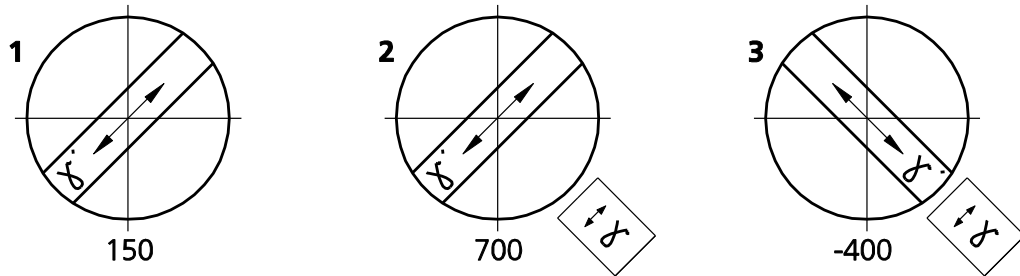
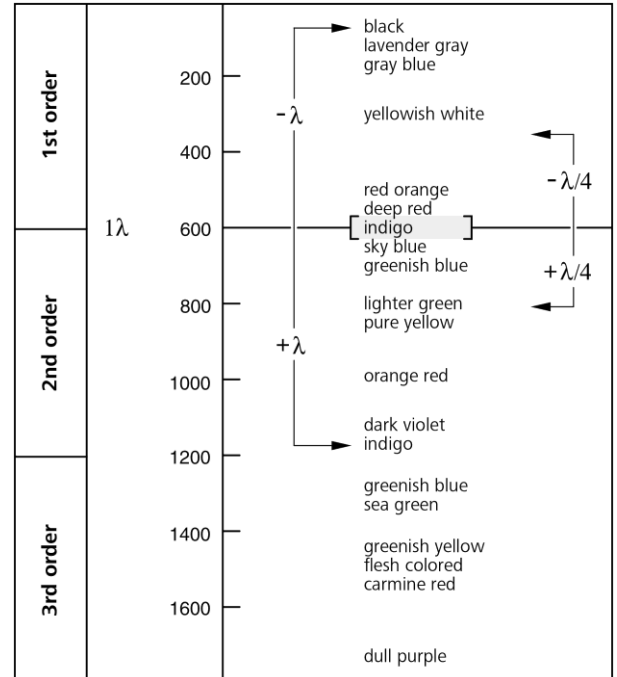

Fig. 4-14 Determining the polarization direction n_{γ} using a synthetic fiber as an example
Fig. 4-15 Schematic diagram of the color charts according to Michel-Lévy
- Now turn the stage on by 45° so that the longitudinal axis of the fiber is oriented NE-SW (Fig. 4-15). The sample will display the greatest brightness here (diagonal position). In this position the sample may have any color.
The largest path difference occurs when the polarization direction of the sample with the absolute or relative highest refractive index (n_γ or $n_{\gamma'}$) is parallel to the principal polarization direction of the lambda compensator. The sample will then appear greenish-blue, for example (Fig. 4-14/2).
The smallest path difference occurs when the polarization direction of the sample with the absolute or relative lowest refractive index (n_α or $n_{\alpha'}$) is perpendicular to the polarization direction of the lambda compensator. The sample will then appear yellow, for example (Fig. 4-14/3).
The gray-white color appearing first in the bright position in the above example (Fig. 4-14/1) corresponds to a path difference of 150 nm according to the Michel-Lévy color chart (Fig. 4-15).